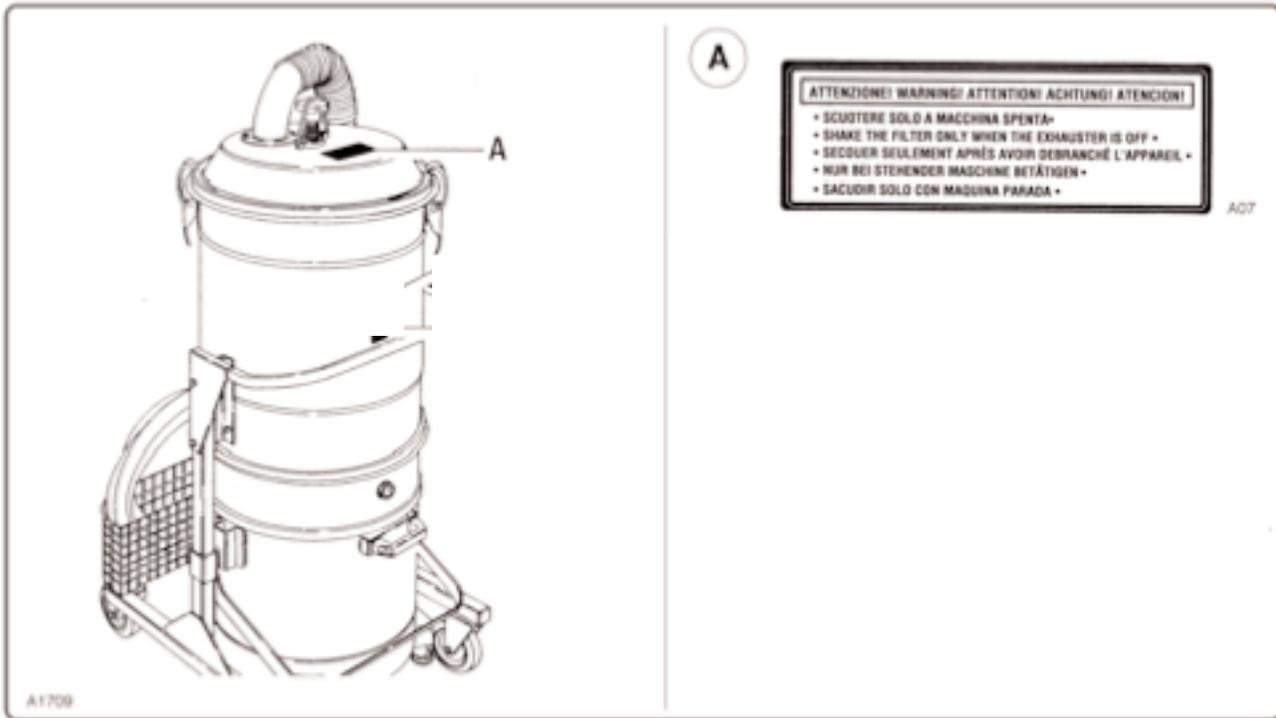

Fig. 3.2.1
3.2 - Warning plates (fig. 3.2.1)
Check that the data plates are always affixed and legible. Replace them if this is not the case. Fig. 3.2.1